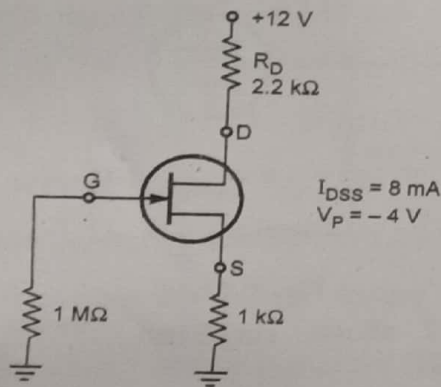

Fig. Q.19.1
Q.19 For the circuit shown in Fig. Q.19.1. Calculate V_{GSQ} , I_{DQ} , V_{DS} , V_S and V_D .